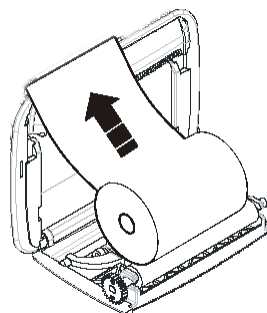

Figure 2
- Place the paper roll and ensure that the paper unrolls in the right direction as shown on Figure 2;